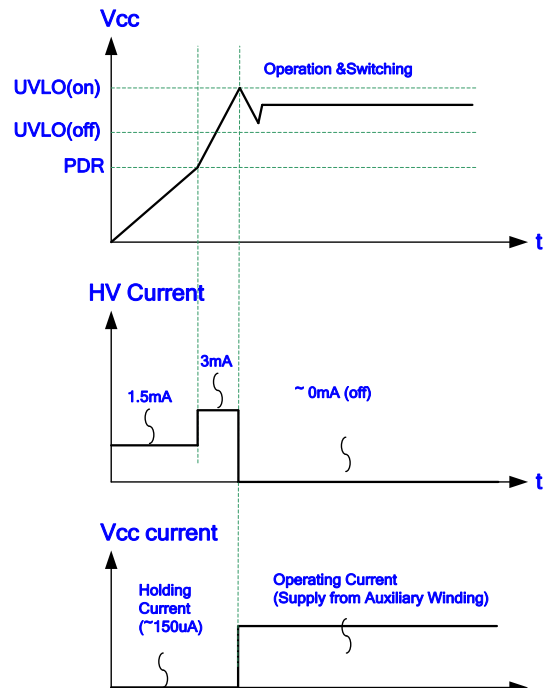

Fig 16.
Please refer to Fig 16. If VCC is below PDR, the charge current is only 1.5mA and the lower charge current can protect IC if the VCC Pin is short to the GND. Once VCC voltage rises up to the UVLO(ON) threshold, HV pin will no longer charge the capacitor. On the contrary, it sends a gate-drive signal to draw supply current for VCC from the auxiliary winding of the transformer. That minimizes the power loss on the start-up circuit successfully.
An UVLO comparator is embedded to detect the voltage across VCC pin and ensure the supply voltage is high enough to power on the LD7791/A/B/C in addition to driving the power MOSFET. As shown in Fig 16, the